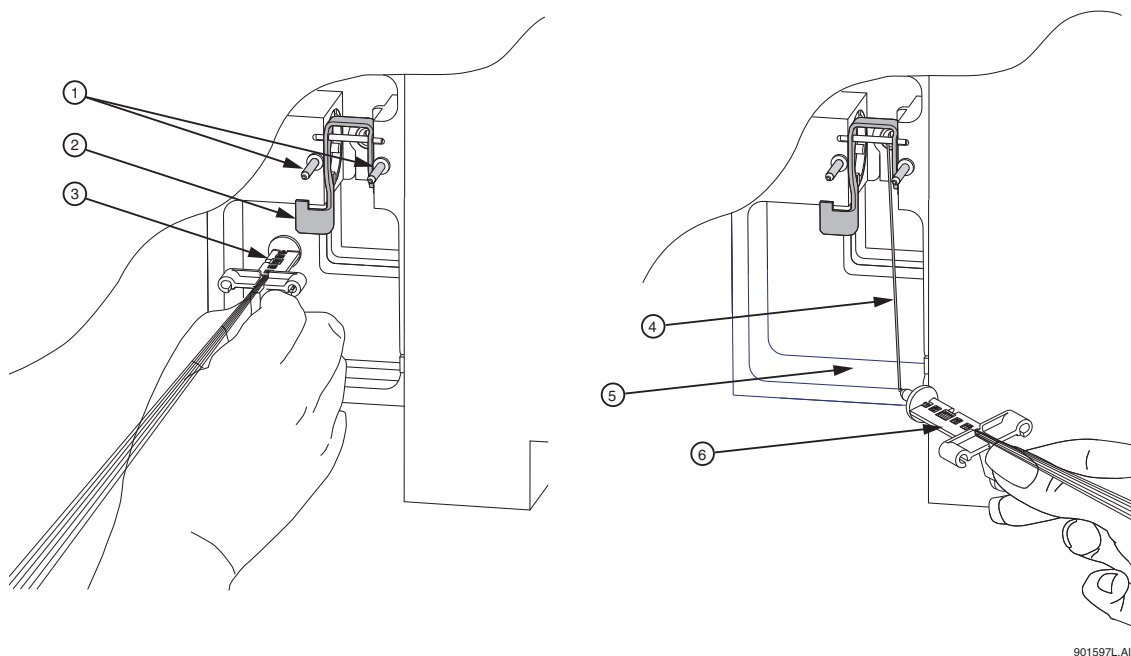

Figure 9.34 Removing/Replacing the Array Fitting
9. Grasp the electrode block tab (Figure 9.34) and pull the block out and away from the instrument. If removal of the block tab is difficult, use the eject lever to assist.